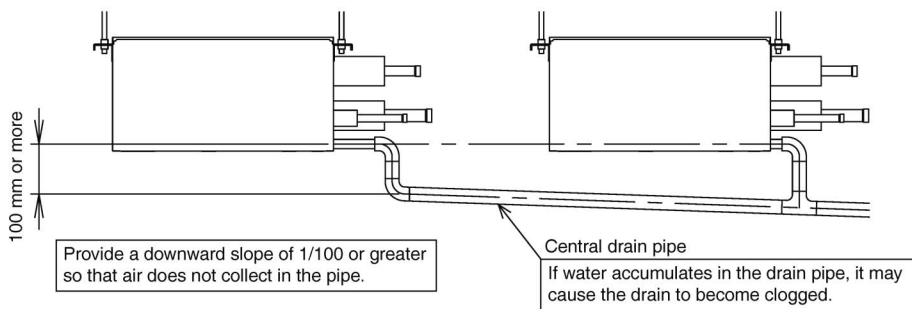

Fig. 9
- To avoid subjecting the included drain hose (4) to excessive force, do not bend or twist. (Doing so may result in a water leak.)
- When using a central drain pipe, follow the instructions in **Figure 9**.
**(2) After the completion of piping work, verify that water flows smoothly through the drain.**